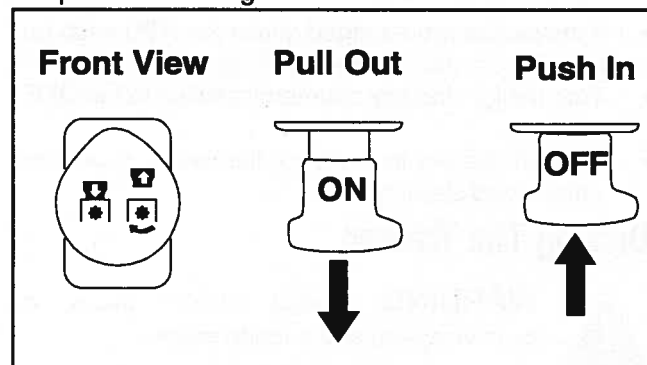

Figure 8
- Pull the PTO knob outward into the engaged (ON) position. See Figure 8.